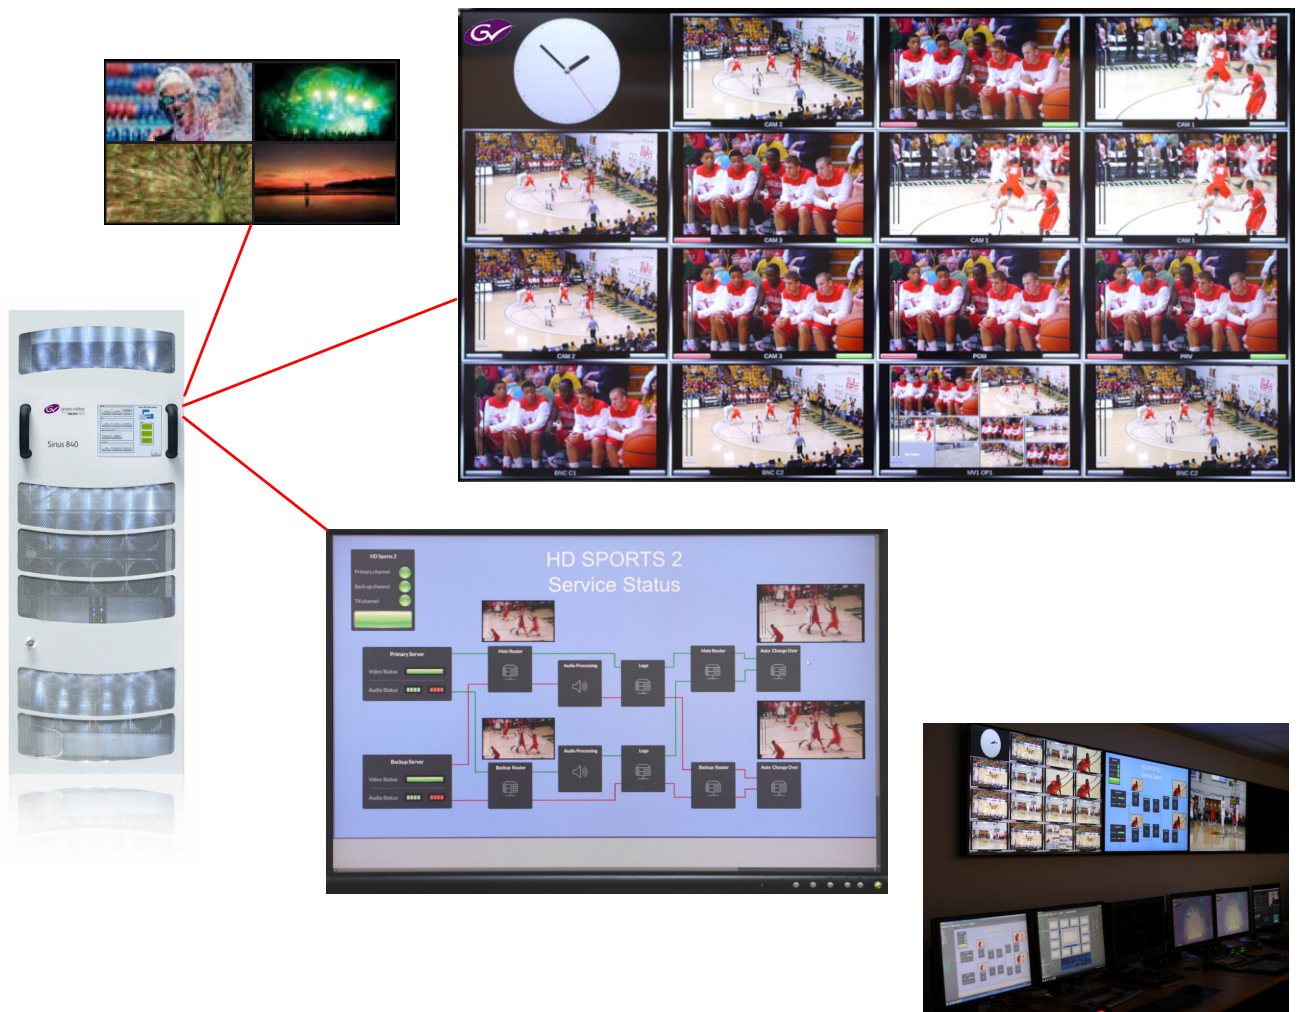

Figure 1 MV-800 Multiviewer Video Walls and Screens
- Flexible screen design from multi-channel quad-splits to flexible multi-tile screen layouts, shown in Figure 1.